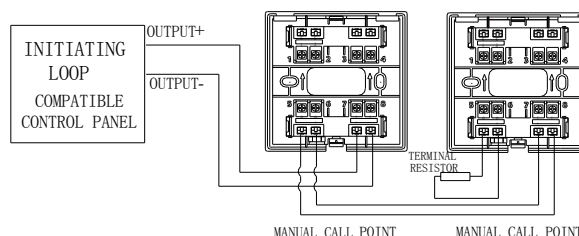

Fig. 3
- ✧ The base doesn't connect with a diode if a 4.7kΩ resistor is connected to the end of output loop instead of Active End of Line Unit. The system composition is shown in Fig. 3.